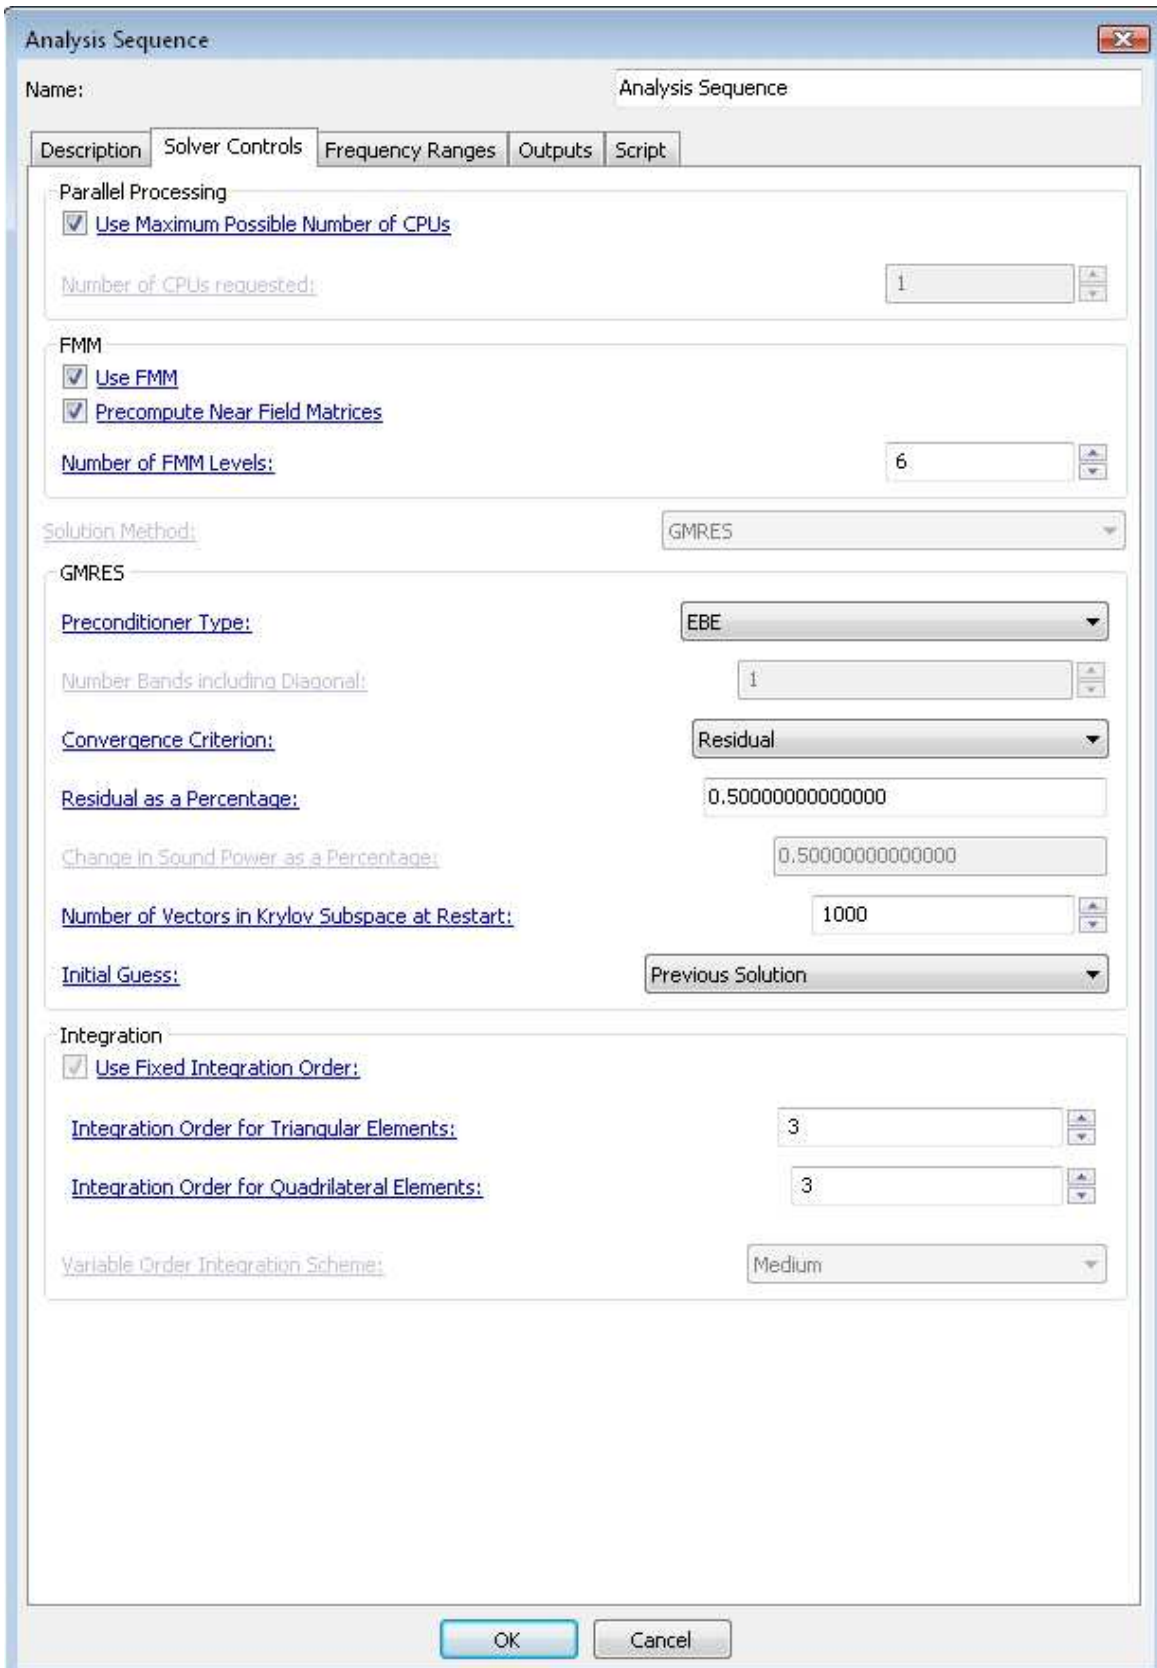

Figure 23: Analysis solver controls.
- Select **Solver Controls** tab to set solver parameters. Refer to Figure 23.